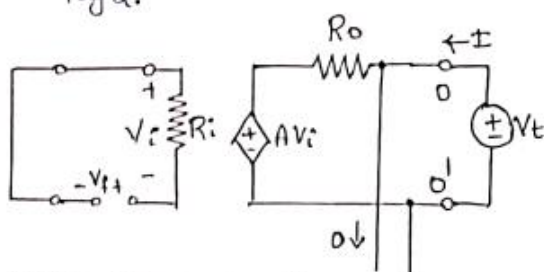

Fig 2: measuring the output resistance of the Feedback Amplifier of fig 1a.
(1) To find the output resistance R_{of} , of the feedback amplifier, we reduce V_s to zero and apply a test voltage V_t at the output as shown in fig 2.